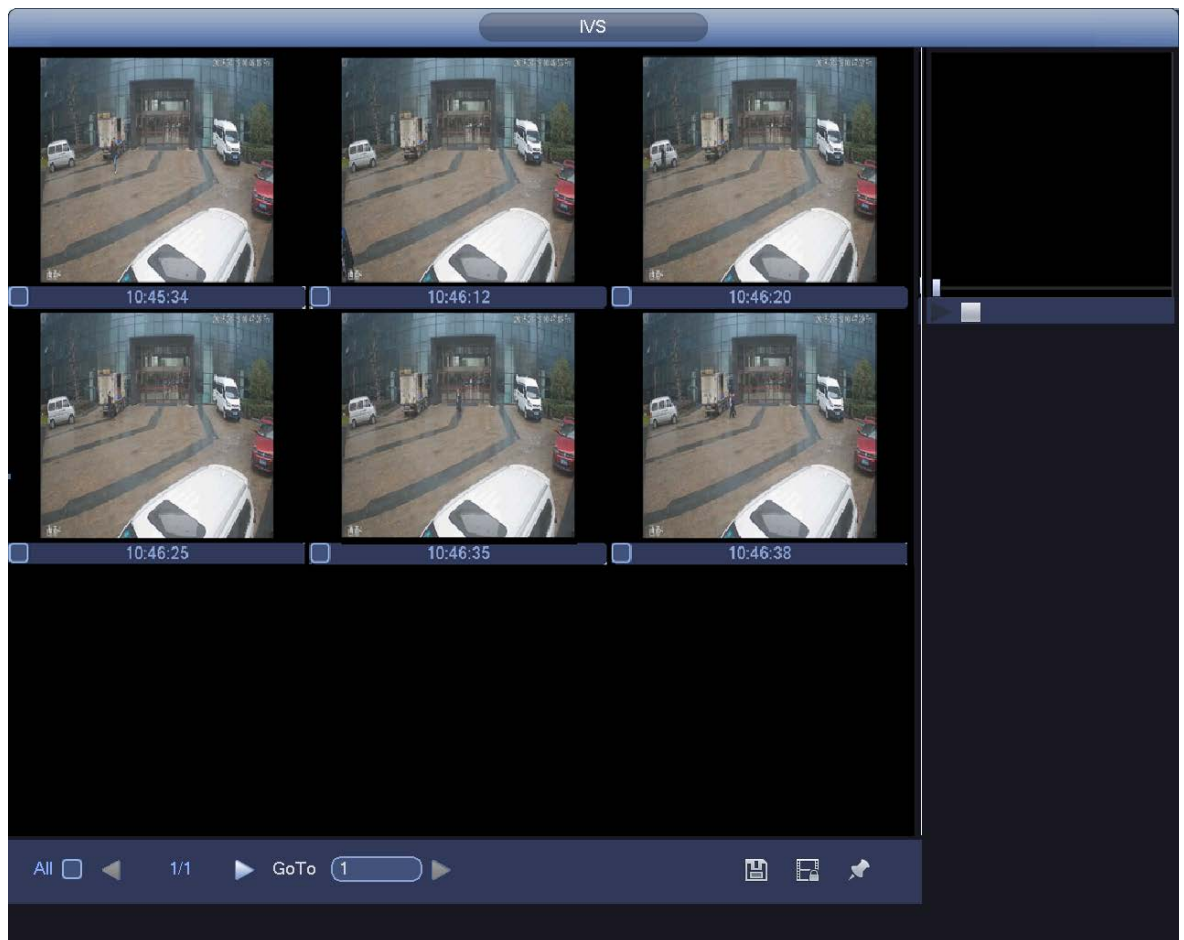

Figure 3-101
- Step 2 Select Channel, Start Time, End Time and Event Type. Click Smart Search. The search results are displayed. See Figure 3-101.